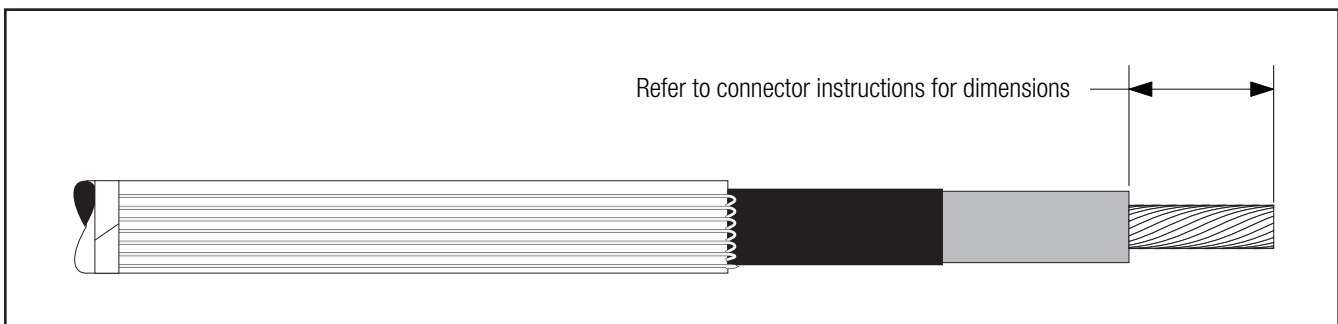

Figure 4
- 3.1 If using a 3M™ Shearbolt Connector QCI 500-1000, refer to the instructions included with the connector for insulation cut-back dimension. Insulation removal length shall not exceed 3 3/4" (95 mm) from conductor end (*Figure 4*).